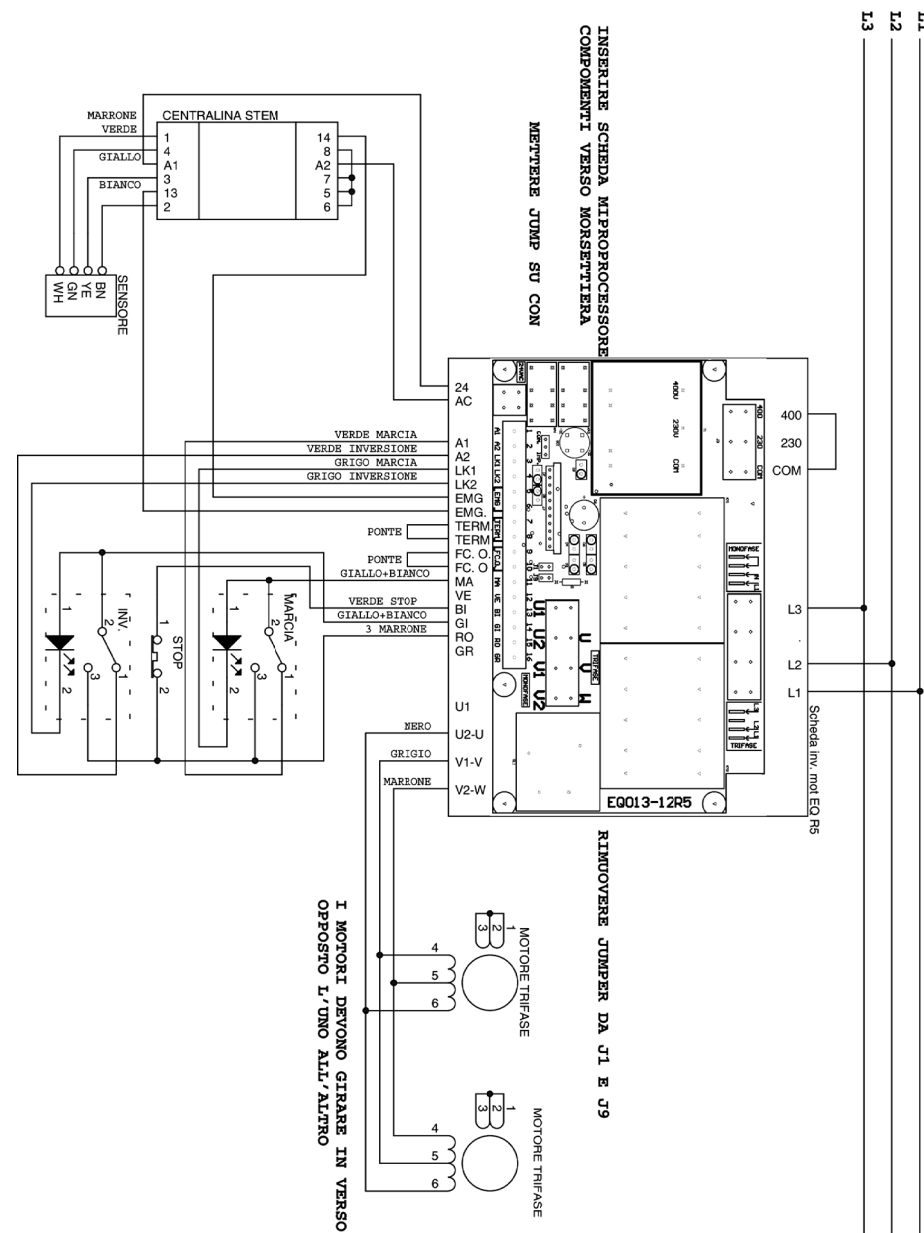

Fig. 2.4.1
When installing the appliance bear in mind that amp space must be left around the appliance. Refer to the dimensions given in Fig. 2.4.1. This space allows you to work freely with the appliance and allows easy access when servicing or repairing it.
2.4.1 - Wiring diagram Three-phase 400V (Fig. 2.4.1)